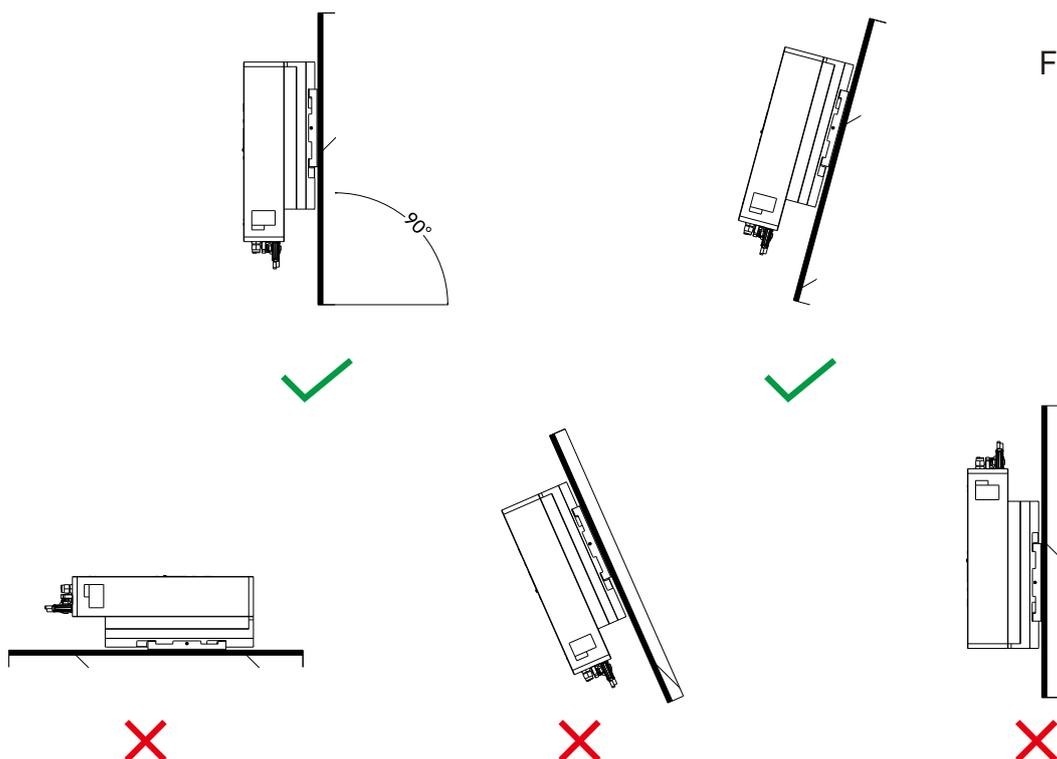

Figure 4
- Install the inverter vertically or at a maximum backward tilt of 15°, ensuring that the connector is at the lower end of the inverter. Avoid horizontal installation and tilting forward or sideways, as shown in Figure 4.